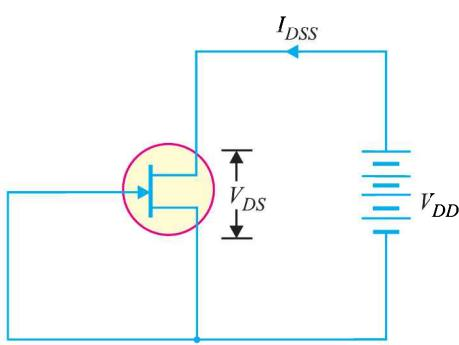
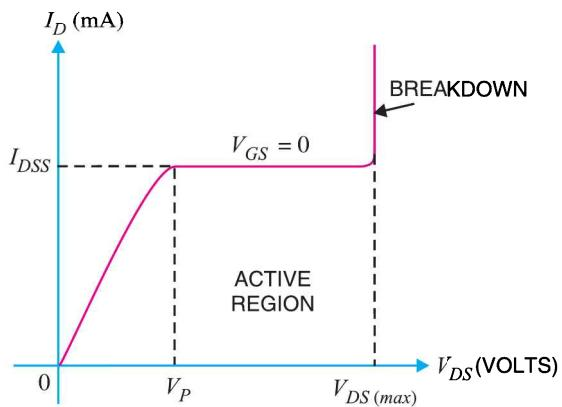

Fig. 19.9
Fig. 19.10
Fig 19.9 shows the *JFET* circuit with $V_{GS} = 0$ *i.e.*, source shorted-circuited to gate. This is normally called shorted-gate condition. Fig. 19.10 shows the graph between I_D and V_{DS} for the shorted gate condition. The drain current rises rapidly at first and then levels off at pinch off voltage V_P . The drain current has now reached the maximum value I_{DSS} . When V_{DS} is increased beyond V_P , the depletion layers expand at the top of the channel. The channel now acts as a current limiter and **holds drain current constant at I_{DSS} .
- (ii) There is a maximum drain voltage [$V_{DS(\max)}$] that can be applied to a JFET. If the drain voltage exceeds $V_{DS(\max)}$, JFET would breakdown as shown in Fig. 19.10.